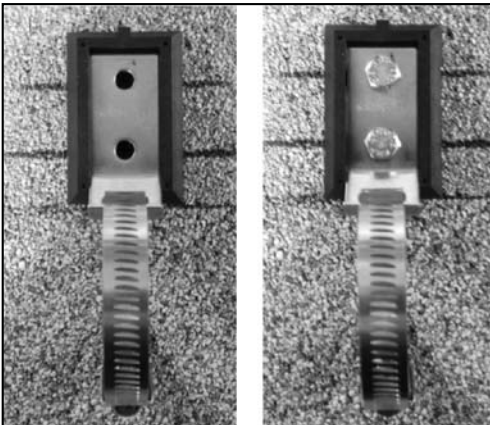

FIGURE 3
5. Inject a generous amount of high quality sealant into each hole and onto the surrounding roof surface. Attach the *Flashing Base & Outlet Header Hold-Down Bracket Assembly* to the roof as shown in **Figure 3**.